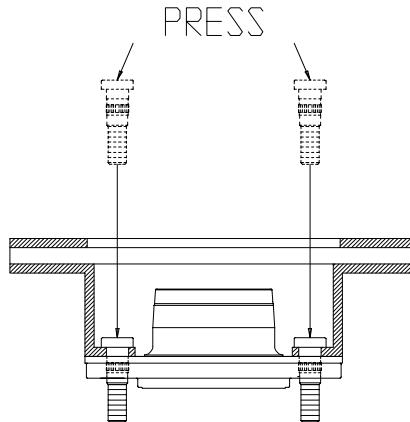

Figure 6. Stud press diagram
1. Place the brake rotor to the wheel hub aligning the holes. See Figure 6.